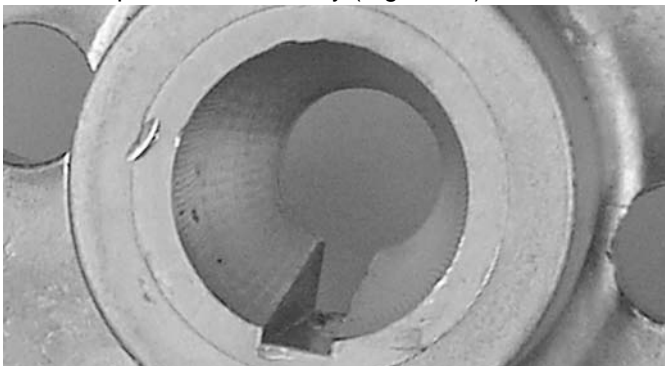

Fig. 30
2. Inspect the flywheel for cracks or damage. Replace as necessary (Figure 30).